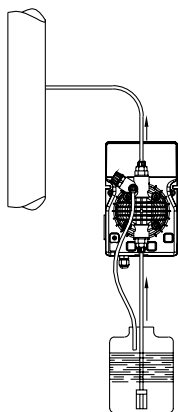
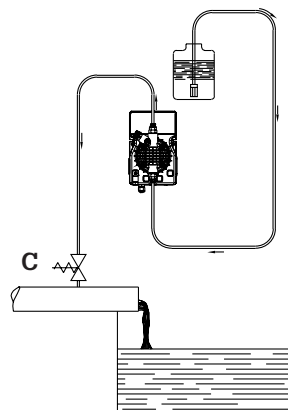

Fig. 5
Fig. 6
- c.- Locate the pump as shown in fig. 5 bearing in mind that it may be installed either below or above the level of the liquid to be dosed, though the level difference should not exceed 2 meters. When the process plant in which the pump is installed is operating at atmospheric pressure (no back pressure) and the chemical tank is situated above the plant (Fig. 6), the condition of the injection valve should be checked at regular intervals, because excessive wear and tear could cause additive to drip into the plant even when the pump is shut down. If the problem persist, install a properly calibrate counter-pressure valve (C) between injection point and the valve. In the case of liquids that generate aggressive vapours, do not install the pump above the storage tank unless the latter is hermetically sealed.